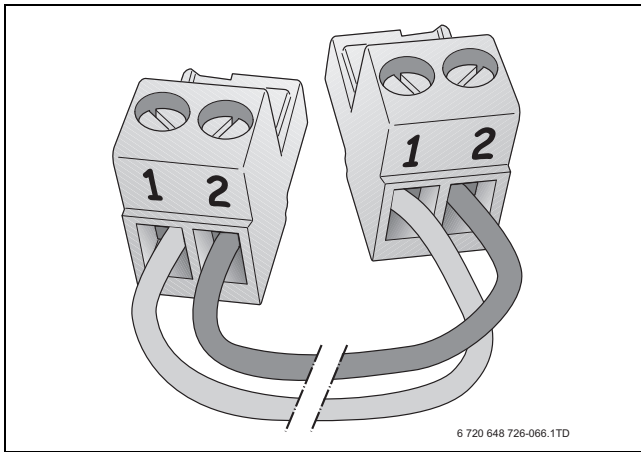

Fig. 66 EMS bus polarity
- ▶ Make a sufficiently long EMS bus connection cable, using a 2-core cable of 0.4 - 0.75 mm2 and the connector enclosed with the module (→ fig. 66). Important: Use the connector of the same colour as the connections on the module.